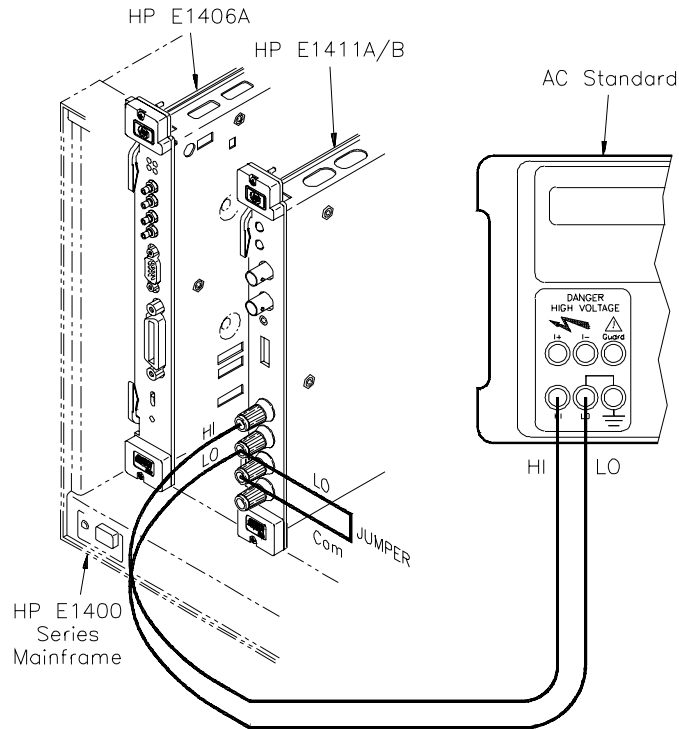

Figure 4-3. AC Voltage Setup
1. Connect the equipment as shown in Figure 4-3.